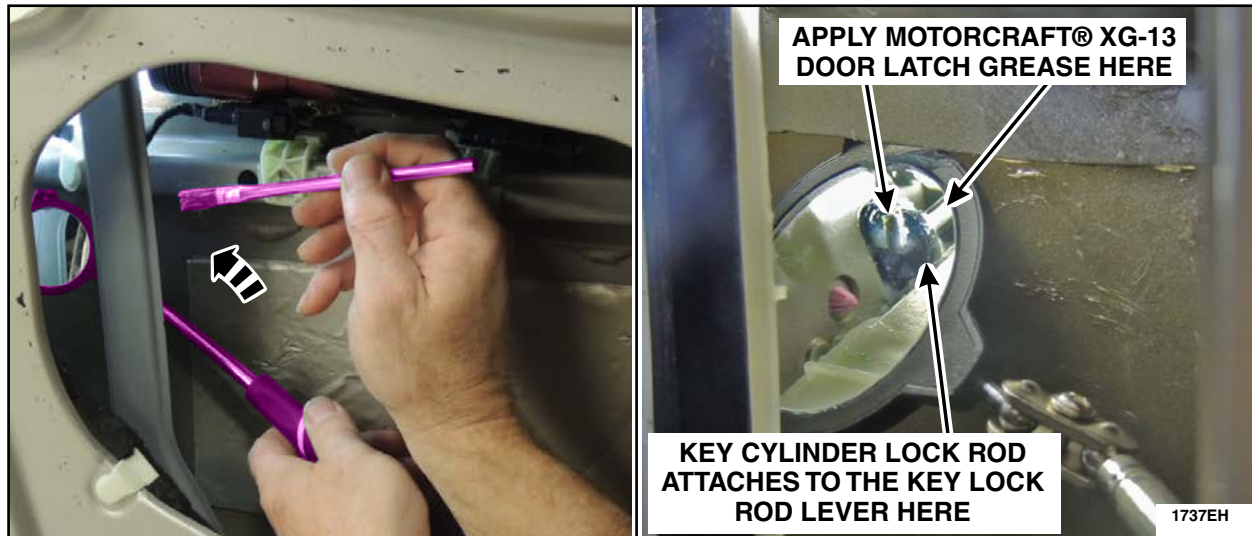

FIGURE 16
21. For driver side only, use an inspection mirror to locate and liberally apply Motorcraft® XG-13 door latch grease to the area where the key cylinder lock rod attaches to the key lock rod lever. See Figures 16 and 17.